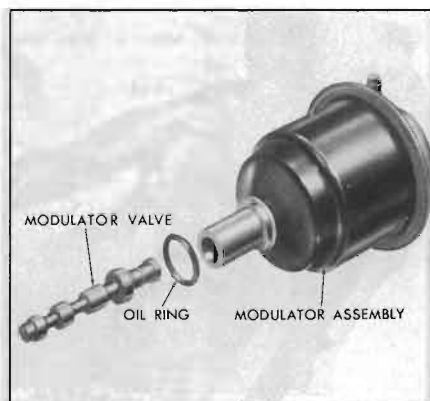

Figure 74-731
1. Inspect the modulator assembly for any signs of bending or distortion. See Figure 74-731.